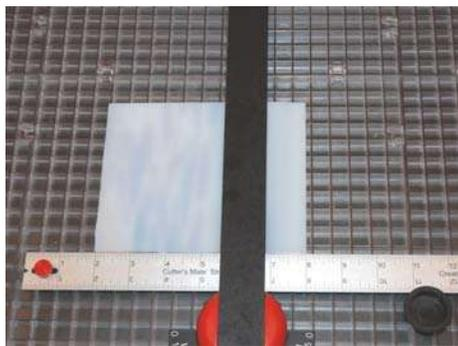

figure 4
3. Now, turn the glass over and rotate it 90 degrees. Use the **number 7** on the ruler as our point of origin. **figure 4**